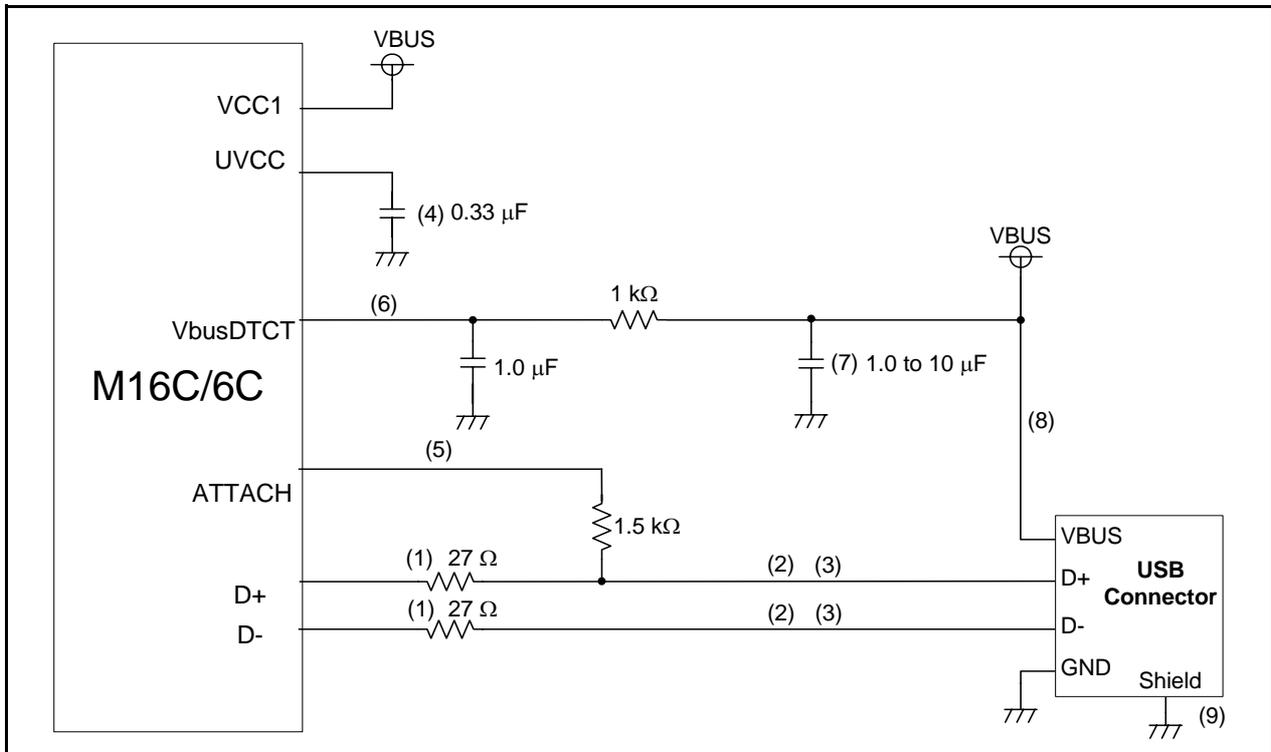

Figure 6.1 Bus-powered Mode Circuit (5.0 V)
Figure 6.1 shows an example of a Bus-powered Mode Circuit (5.0 V).
Note the items below when using bus-powered mode circuit (5.0 V). Numbers (1) to (9) correspond to (1) to (9) in Figure 6.1.
- (1) Series resistors on D+/D- lines